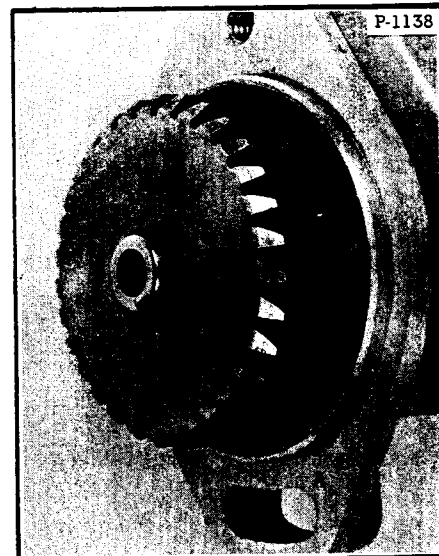

Fig. 244 Impulse Lever and Stop
3. Turn the magneto gear counterclockwise until the small white mark appears in the sight window of the magneto cover. The gear will now be in a somewhat fixed position. You will feel a point of drag or holding at this point. The impulse lever and stop will be in the position shown in figure 244.